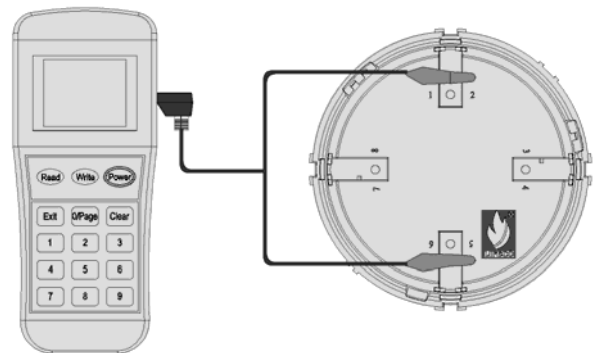

Figure 4
1. Connect the programming cable to 1,2 and 5,6 terminals (Figure 4). Press **"Power"** to switch on the unit.